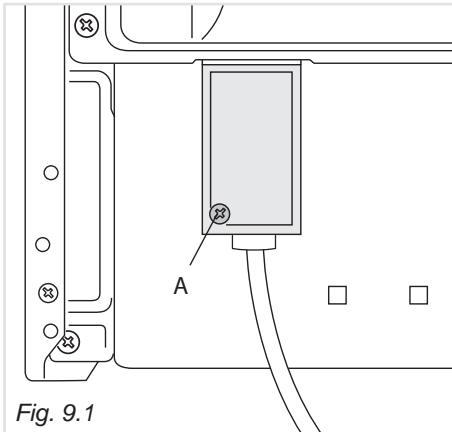

Fig. 9.1
- Remove the screw securing the cover "A" on the rear of the cooker (fig. 9.1).